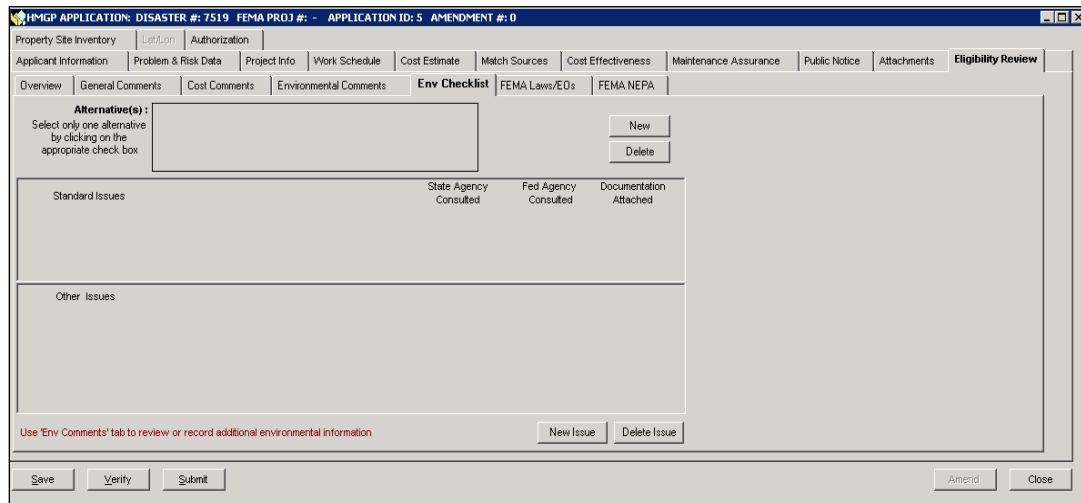

Figure 6-77: Mitigation > Projects > Application Development > Eligibility Review > Env Checklist Sub-tab
7. Click the **Env Checklist** sub-tab (Figure 6-77). To add Environmental Checklist information, complete Steps 6a - 6e.